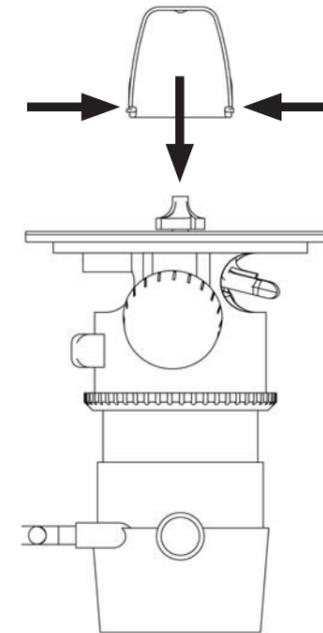

Fig. 5
6. To apply the chip cover, squeeze the sides, and fit the groove of the chip cover inside the cavity at the inside rim of the base plate (Fig. 5). Since only one chip cover is used at a time, use the 1/4" hole on the cover to store unused covers on a nail or hook for later use.